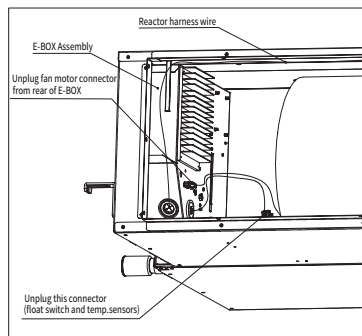

Fig.4.6
- (1) After removing the insulation tapes(store for reuse), unplug the float switch and temperature sensor connector, fan motor connectors from the Return Air Box as below; Unfasten fan motor wiring (Fig.4.6).